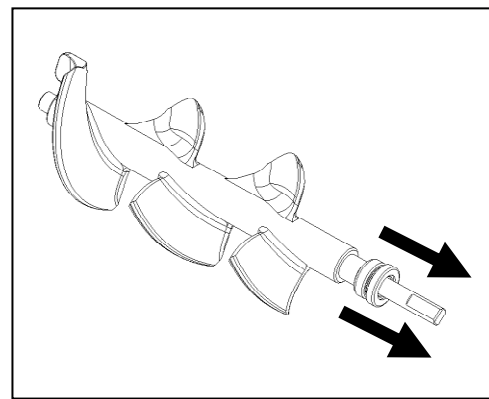
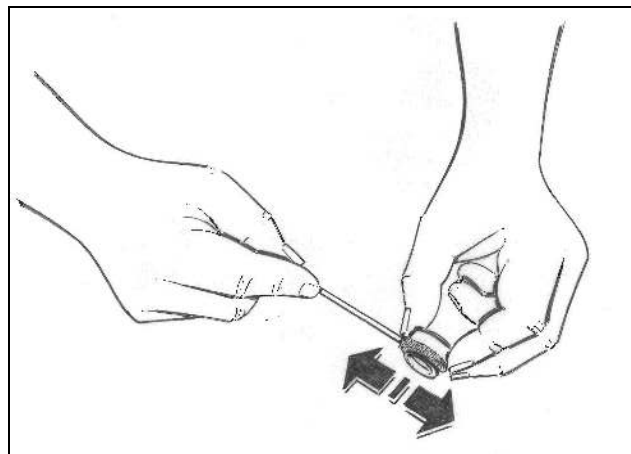

Fig. 22
Fig. 23
- Remove the rear seal (fig.22) and clean it carefully with the provided brush in order to remove any food residues that may be present (fig.23).